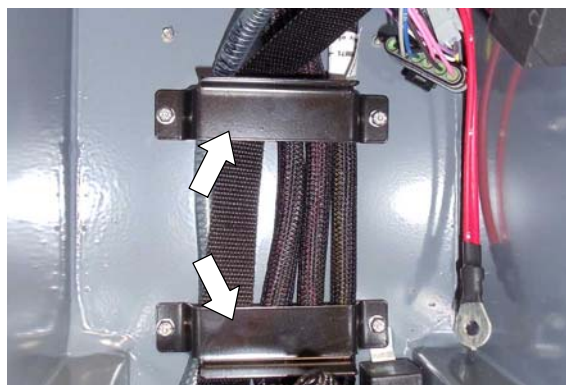

Fig. 3
4. Remove the top and bottom wire harness retainer brackets from machine (Figure 3).